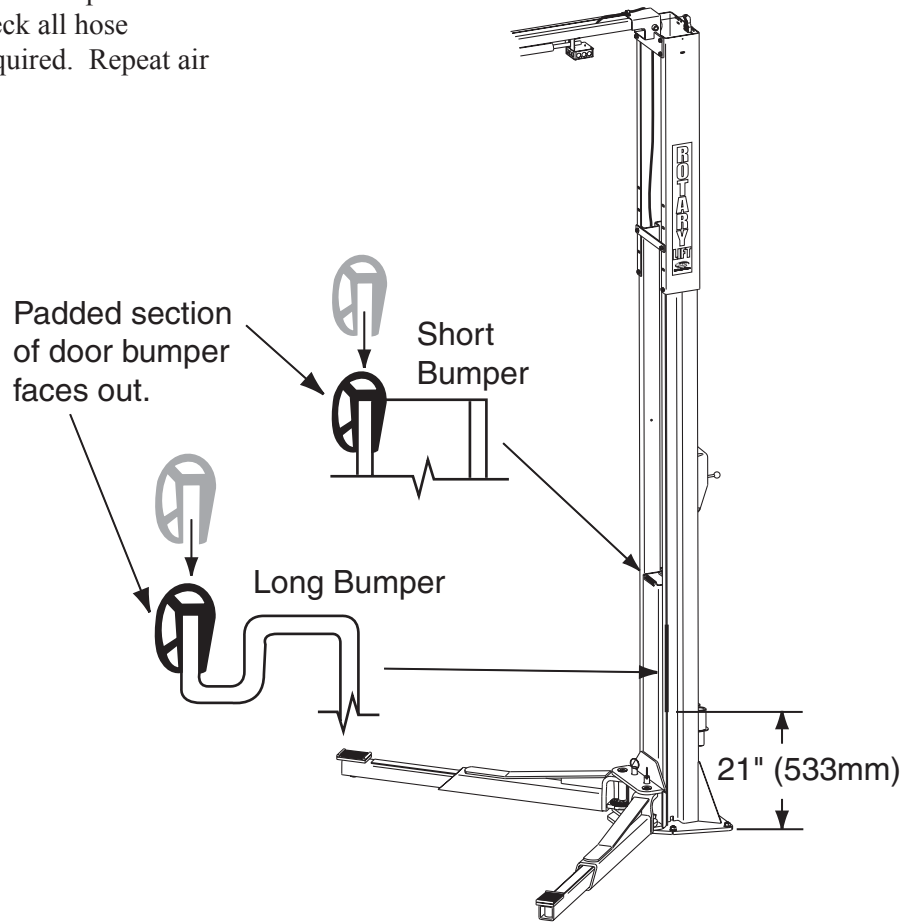

Fig. 21a
- 1) Press long bumper on column edge, Fig. 21a.
- 2) Press short bumper on top edge of carriage tube, Fig. 21a.